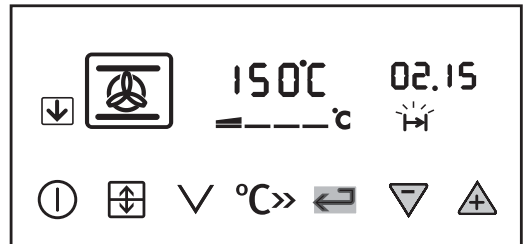

Fig.11.
- iv) To set the length of cooking time, press the Time Selector button until the 'Cook Time' indicator () is illuminated. Press the increase control button () until the required length of cooking time is displayed, e.g. 2 hrs 15 mins as Fig. 11. Depress the decrease control button () if necessary.